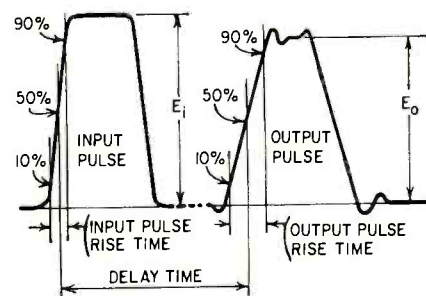

Fig. 4—Pulse waveforms help define some delay-line terms.
**Delay time.** The elapsed time between the 50% amplitude points of the input-pulse leading edge and the output-pulse leading edge. (See Fig. 4.)